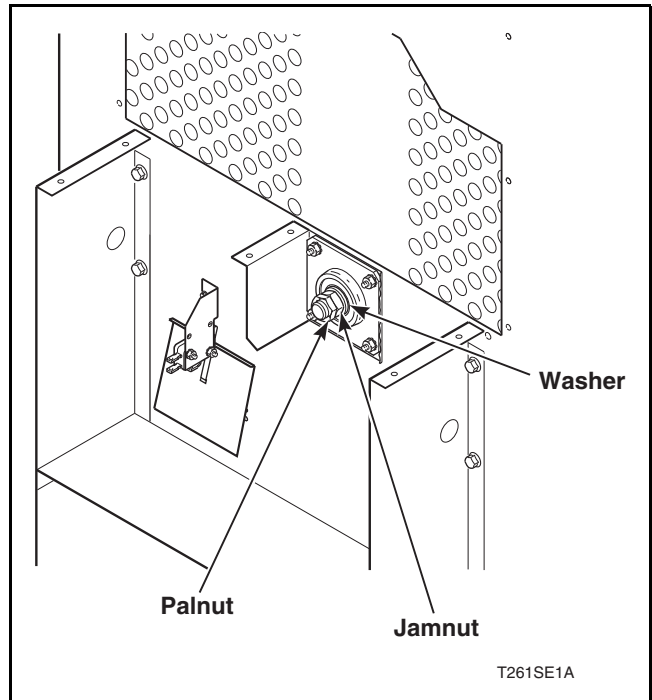

Figure 17
Refer to *Figure 17*.
- d. Remove palnut, jamnut and washer from cylinder shaft. Refer to *Figure 17*.
- c. Remove palnut, jamnut and washer from cylinder shaft. Refer to *Figure 17*.